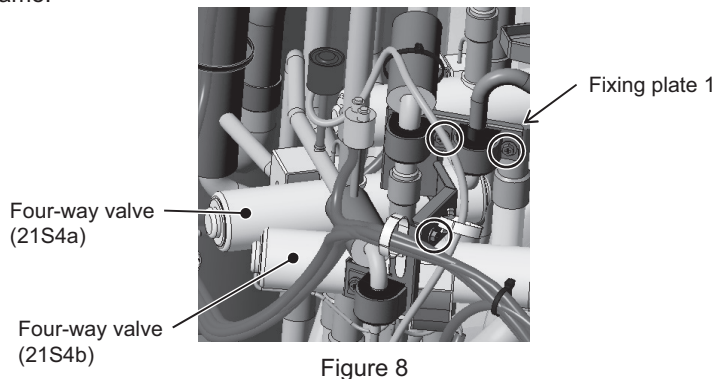

Figure 8
- (1) Remove the front heat exchanger. Refer to [8-13-12 Maintenance Procedures for the Heat Exchanger <Type A/Type A1/Type TR>] for details.
- (2) Remove the top, front, and right compressor covers. Refer to [8-13-7 Compressor Replacement Procedure <Type A>] or [8-13-8 Compressor Replacement Procedure <Type A1/Type TR>] for details.
- (3) Remove the fixing plate 1 above four-way valve (21S4b), saddle, and rubber spacer by unscrewing the three screws shown in Figure 8.